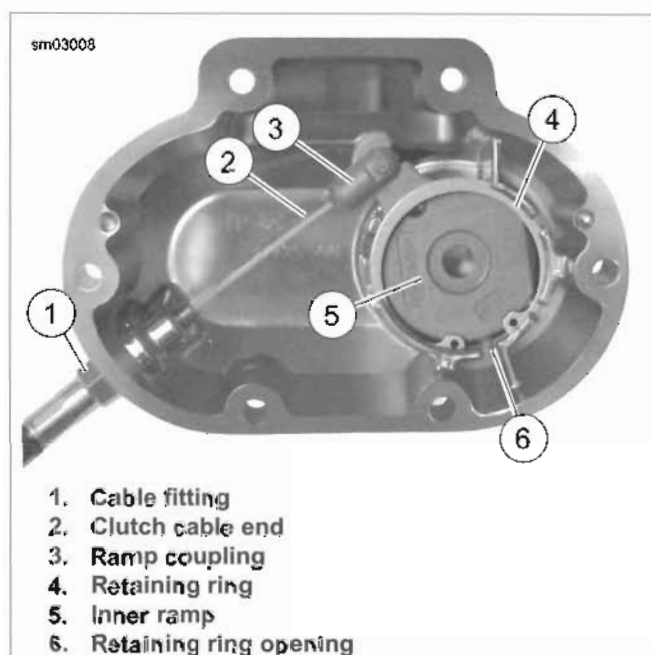
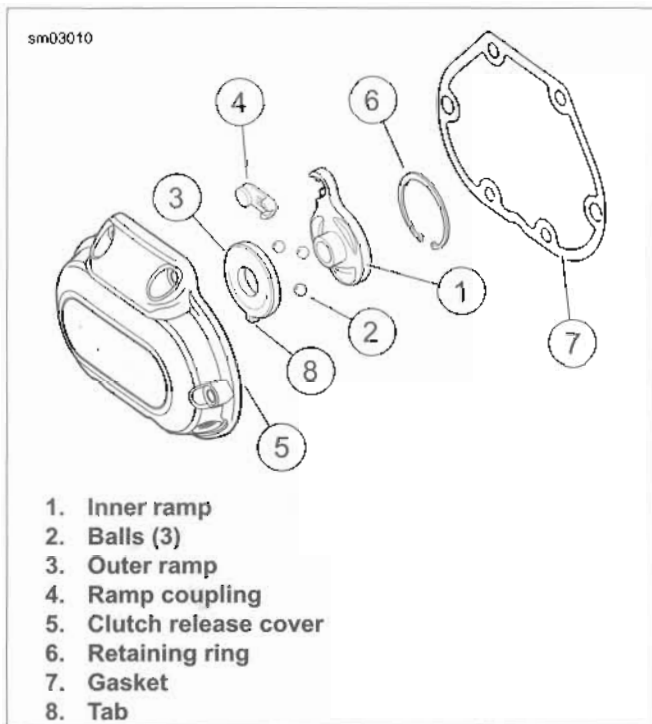

Figure 6-5. Clutch Cable Connection
Figure 6-7. Release Mechanism Assembly
6. See Figure 6-5. Remove retaining ring (4). Lift inner ramp (5) and ramp coupling (3) out of clutch release cover. Disconnect clutch cable end (2) from the ball and ramp coupling.
1. See Figure 6-7. Wash the ball and ramp mechanism components in cleaning solvent.
- Inspect the three balls (2) and ball socket surfaces on ramps (1, 3) for wear, pitting, surface breakdown and other damage. Replace as necessary.
- Check fit of the ramp coupling (4) on inner ramp (1). Replace both parts if there is excessive wear.
- Inspect the retaining ring (6) for damage or distortion.
- Check the bore in the clutch release cover (5) where the ramps (1, 3) are retained. There should be no wear that would cause the ramps to tilt, causing improper clutch adjustment.
- See Figure 6-5. Apply a drop of LOCTITE 243 MEDIUM STRENGTH THREADLOCKER AND SEALANT (blue) to clutch cable fitting (1) and screw fitting into clutch release cover. Do not tighten at this time.
- See Figure 6-7. Place outer ramp (3) with ball socket side up in clutch release cover. Be sure tab (8) is in clutch release cover slot.
- Apply a multi-purpose grease to the balls (2) and outer ramp sockets. Place a ball in each of the outer ramp sockets.
- Connect cable end to ramp coupling (4). Install coupling on inner ramp (1) and place inner ramp and coupling in position in clutch release cover (5).
See Figure 6-5. Center retaining ring opening above the break in the ribbing at bottom of the clutch release cover.
- Figure 6-7. Install retaining ring (6).
- Verify that two dowel pins are in place on transmission bearing housing flange. Place a new gasket (7) on dowel pins